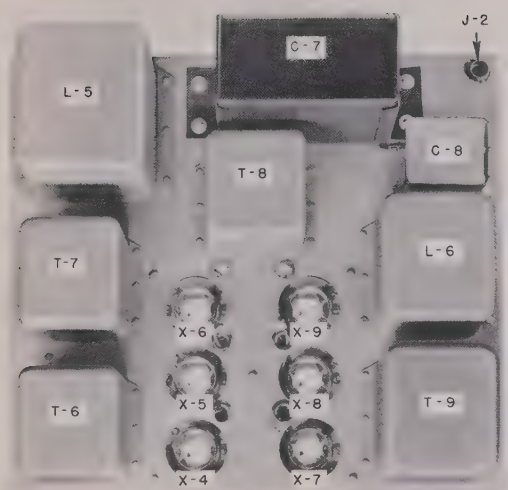

Figure 60. Rectifier Power Unit Model 36D, top view high-voltage rectifier chassis
b. Localizing Trouble in +2,100-Volt Supply (figs. 60 and 61).